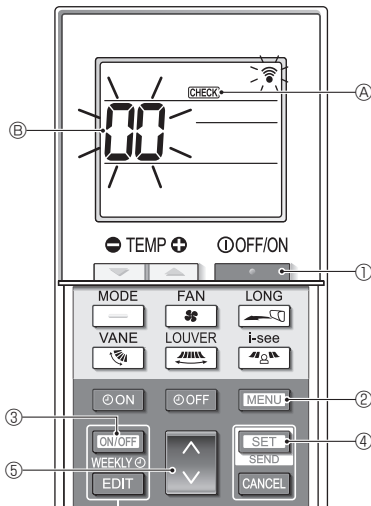

Fig. 7-6
■ Self-check (Fig. 7-6)
- Press the **ON/OFF** button ① to stop the air conditioner.
- If the weekly timer is enabled (**WEEKLY** is on), press the **ON/OFF WEEKLY** button ③ to disable it (**WEEKLY** is off).
- Press the **MENU** button ② for 5 seconds.
- CHECK** ④ comes on and the unit enters the self-check mode.
- Press the **ON/OFF WEEKLY** button ⑤ to select the refrigerant address (M-NET address) ⑥ of the indoor unit for which you want to perform the self-check.
- Press the **SET** button ④.
- Press the **ON/OFF** button ①.
- CHECK** ④ and the refrigerant address (M-NET address) ⑥ go off and the self-check is completed.